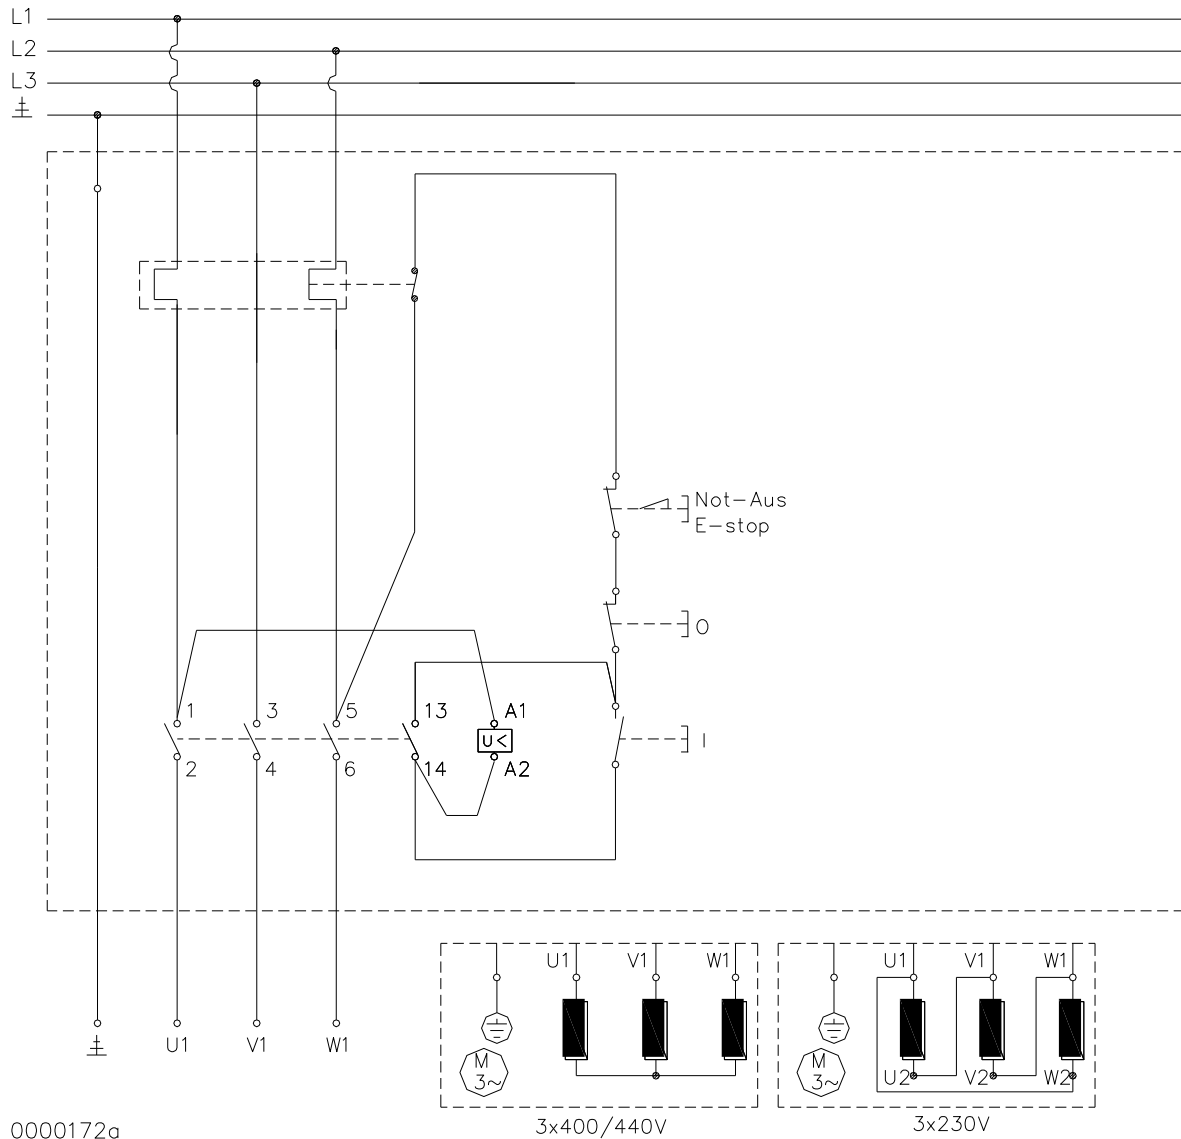

Fig. 4.3.1.: Diagram of belt grinder with no exhaustmotor.
- One velocity grinder without brakes see Fig. 4.3.1 and 4.3.2